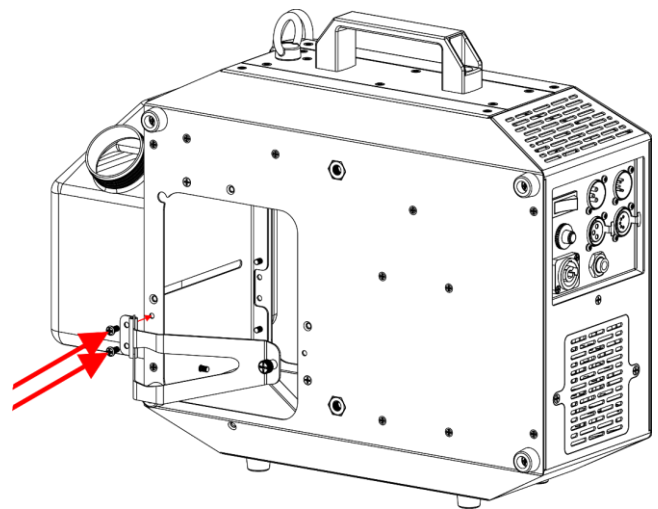

Fig. 15
- 10) Screw the 2 screws of the bracket into the backside and install the **bracket for liquid tank (03)**, as shown in Fig. 15.